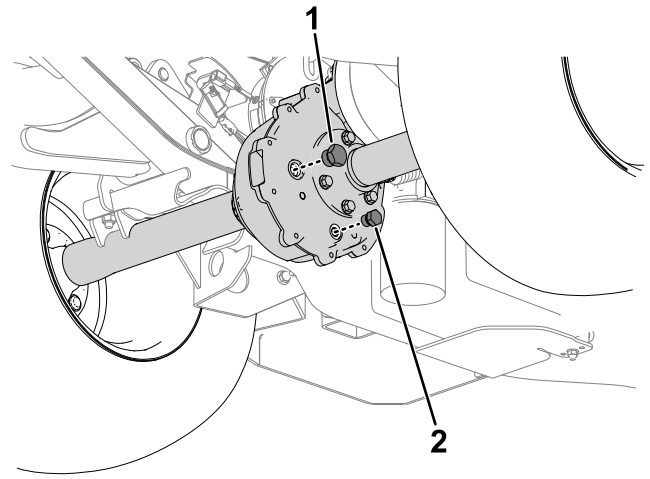

Figure 53
2. Remove the fill plug (Figure 53).
3. Remove the drain plug (Figure 53) and allow the fluid to drain completely.